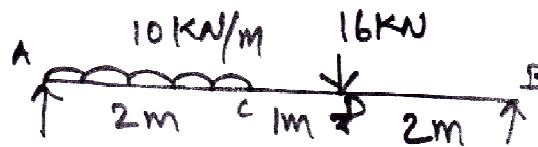

Fig.3
- Q:3 Solve for bending moment and draw the bending moment diagram Fig 3. (05)
Q:4 Solve for shear force and draw the shear force diagram for Fig 3. (05)